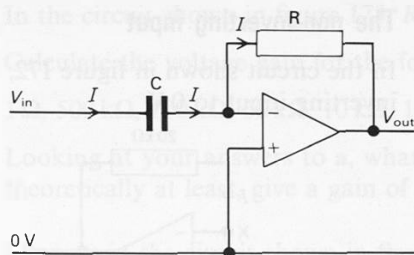

Figure I69
27(L) The circuit shown in figure I69 is a differentiating circuit; the output voltage is proportional to the rate of change of the input voltage: